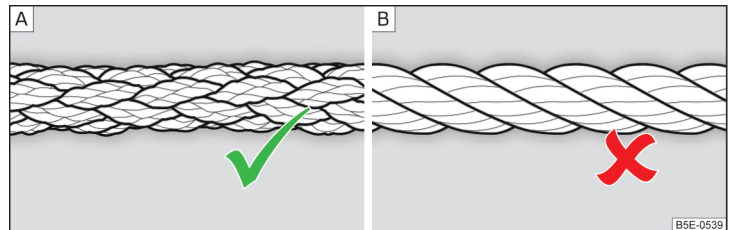

Fig. 251 Braided tow rope / Spiral tow rope
For towing, a braided tow rope is to be used » Fig. 251 - **A**.
- Do not use spiral rope for towing » Fig. 251- [B], the towing eye may unscrew from the vehicle - risk of accident.